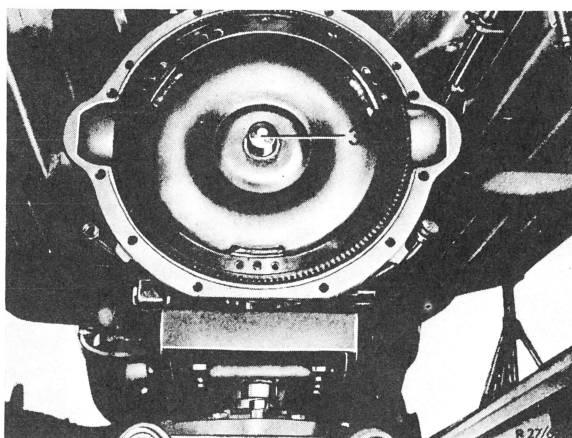
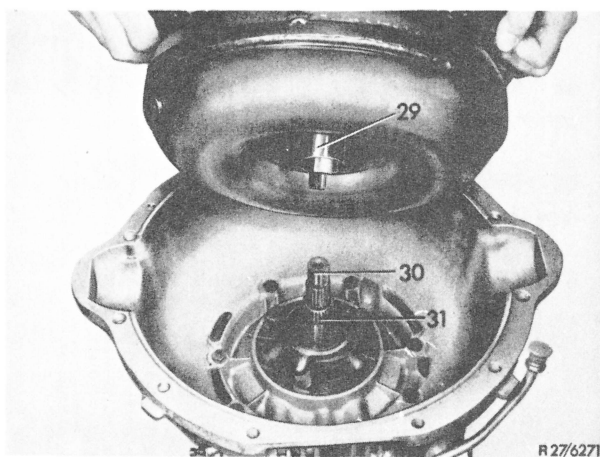

Fig. 13
Fig. 16
27 Screw handling plate to torque converter. Slightly grease drive flange (29 in Fig. 16) and bearing journal (32 in Fig. 13) with Molykote.
30 Place transmission on installer and remover. Turn torque converter in such a manner that two fastening bores are below (Fig. 13) and are in alignment with bores (13) in driven plate (14).